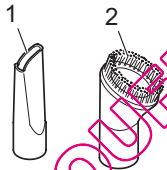

Fig. 6
- Crevice nozzle (Fig. 6/1)
- Furniture brush (Fig. 6/2)